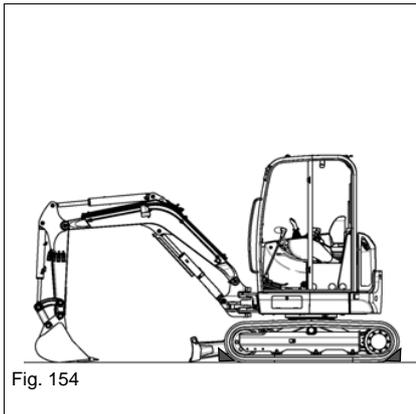

Fig. 154
10. Secure the vehicle with wheel chocks (see Fig. 154).